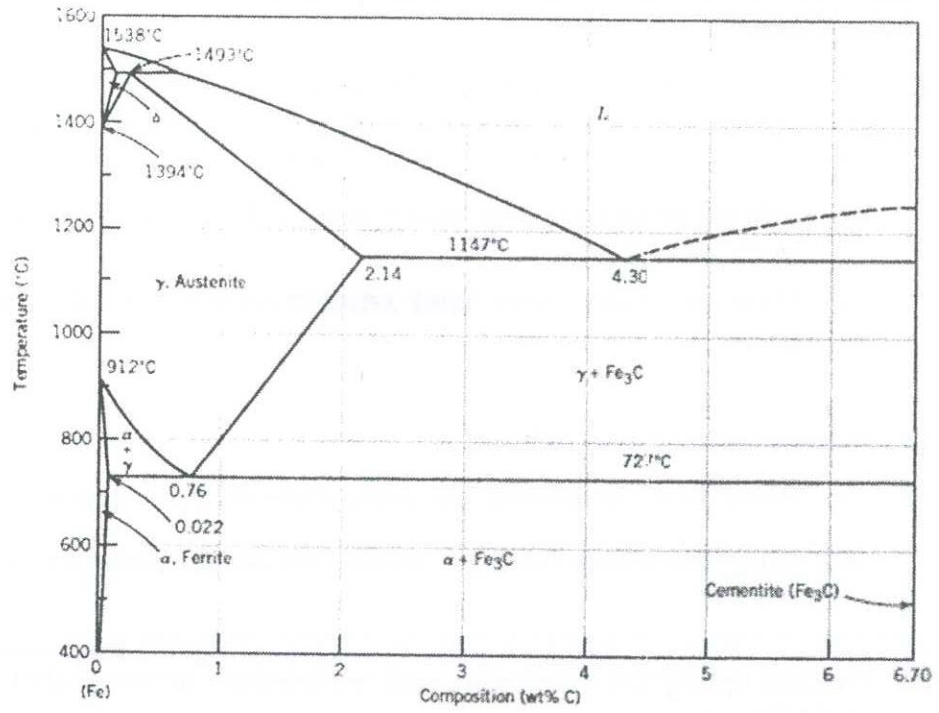

Figure Q3 (c)
c) **Figure Q3 (c)** shows the Fe-Fe₃C phase diagram. Based on the diagram, answer the following questions.